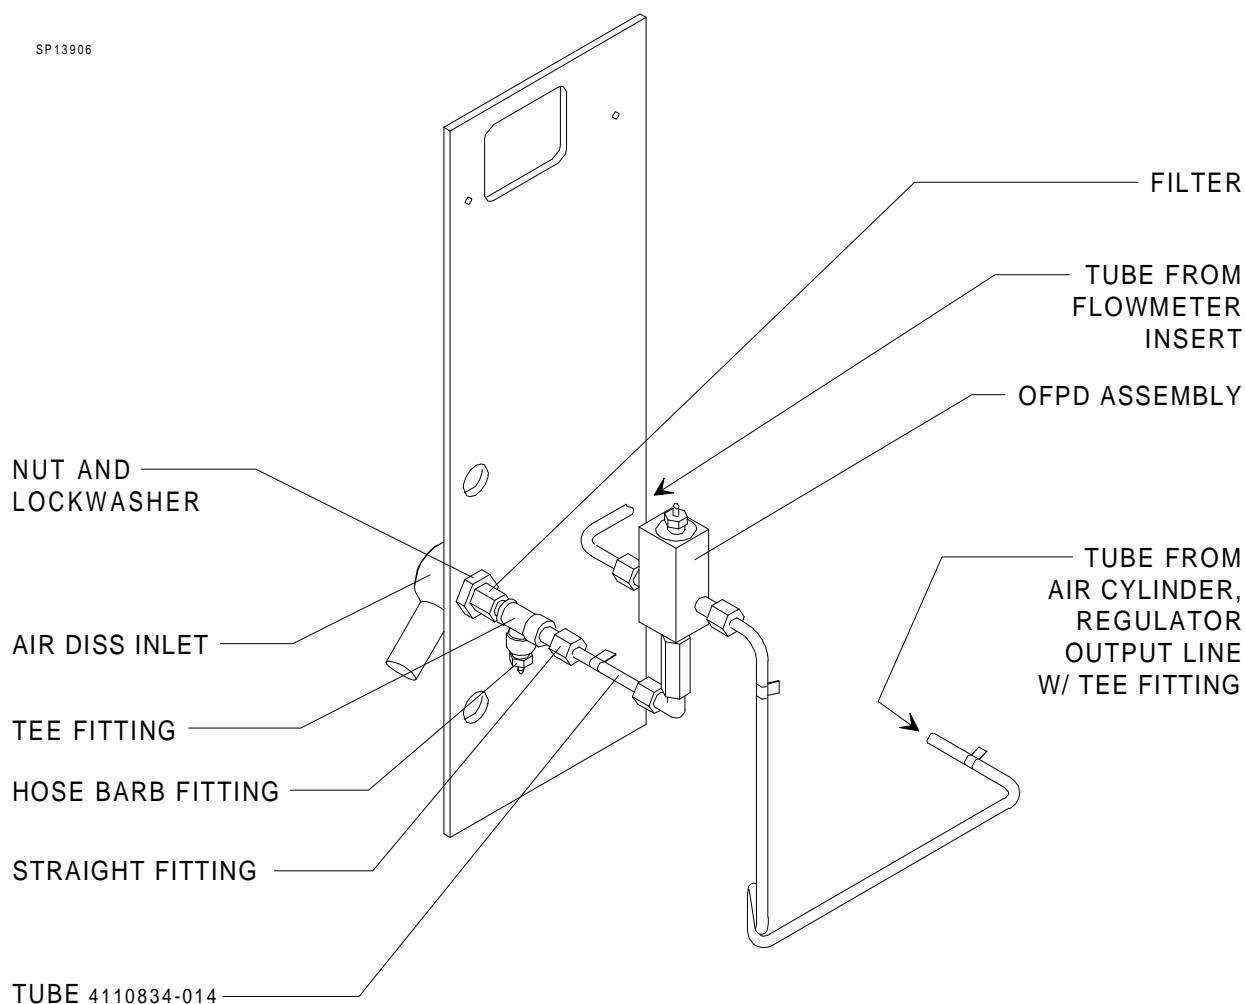
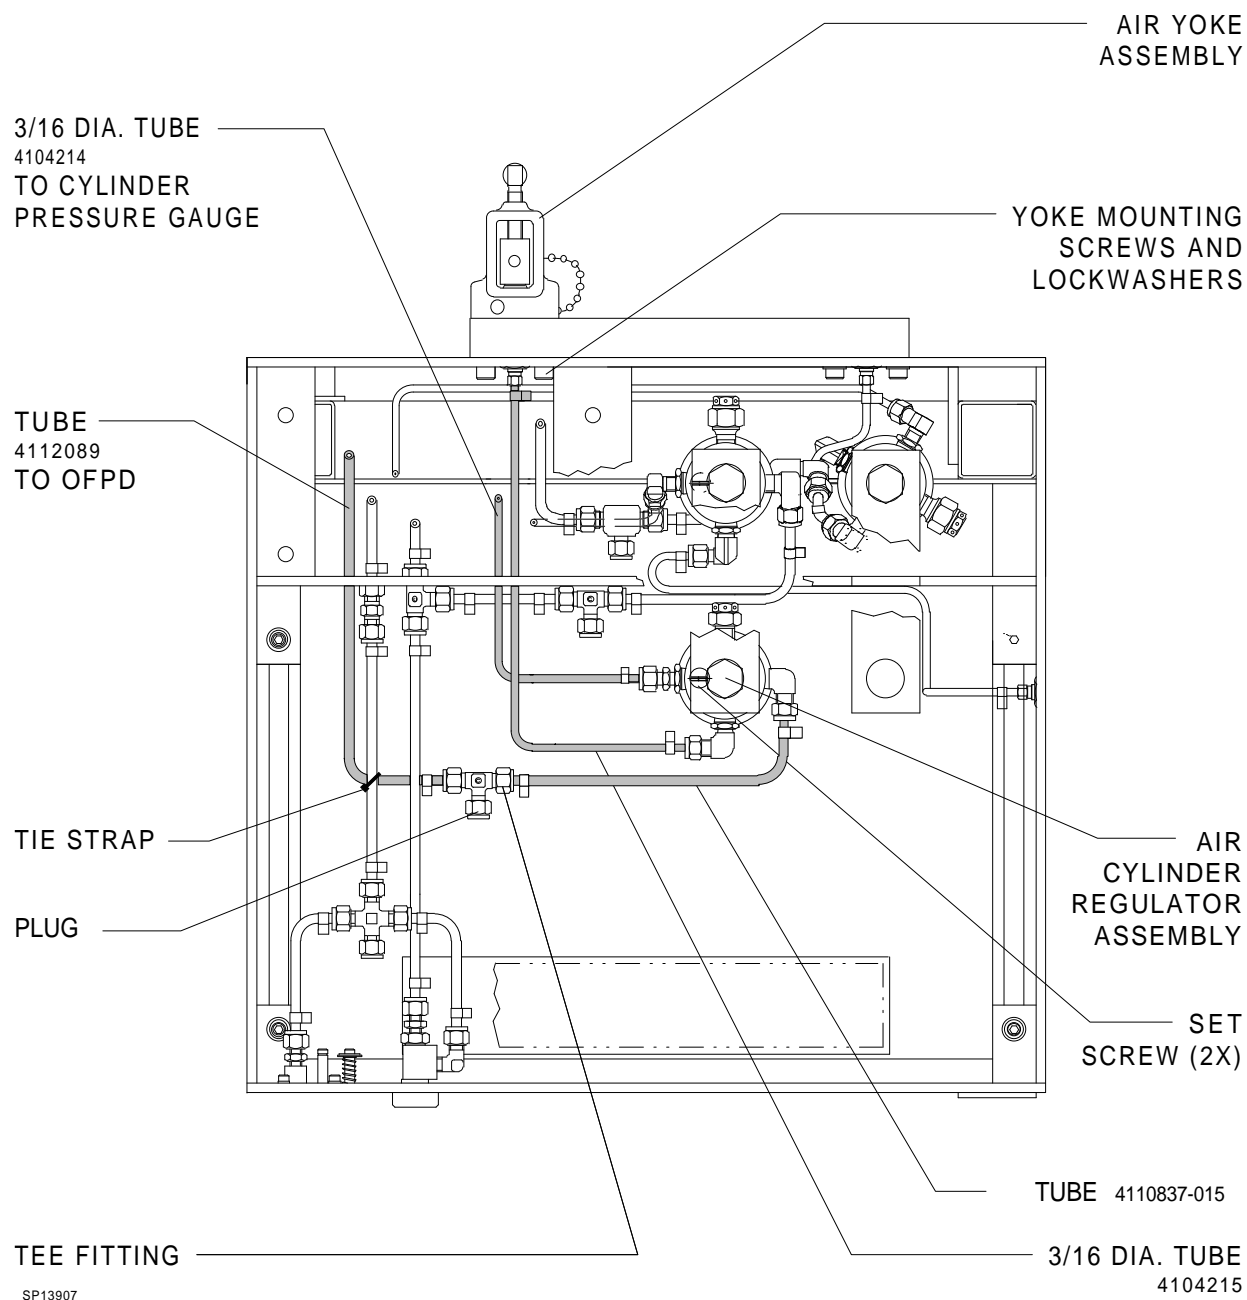

Figure 6: OFPD INSTALLATION
Figure 7: AIR YOKE, REGULATOR AND TUBING INSTALLATION
41. Install an Air DISS inlet assembly (P/N 4109412) as shown in Figure 6, with a $\frac{5}{8}$ in. int-t lock washer (P/N HW67001) and $\frac{5}{8}$ -18 nut (P/N HW52002). Orient the assembly at the same 70° angle as the other pipeline inlets.
43. Place a drop of red Loctite #271 on the threads and install the tee fitting (P/N 4102760) into the filter as shown in Figure 6.
44. Place a drop of red Loctite #271 on the threads and install a hose barb fitting (P/N 4111771) in the center port of the tee fitting as shown in Figure 6.
| <p>46. Install copper tube (P/N 4110834-014) between the straight fitting and the bottom elbow on the OFPD assembly. Install a yellow AIR label on the tube.</p> <p>47. Connect the copper tube from the Air flowmeter insert (previously installed) to the side port on the OFPD assembly. See Figure 6.</p> <p>48. Install the air cylinder regulator assembly (P/N 4104603) with two 10-32 x ½ in. set screws (P/N HW10001). Orient the regulator as shown in Figure 7 with the Inlet marking toward the front of the machine. Tighten the mounting screws to a torque of 55 in. lbs.</p> <p>49. Attach the copper tube (P/N 4110837-015) to the outlet port on the regulator as shown in Figure 7. Install a yellow AIR label at each end of this tube.</p> <p>50. Install a tee fitting (P/N 4108636) at the other end of this tube, and install a plug (P/N 4103072) in the center port of the tee fitting.</p> | <p>51. Connect the copper tube (P/N 4112089) between the remaining port on the tee fitting and the remaining side port on the OFPD. See Figures 6 and 7. Install a yellow AIR label at each end of this tube. Tie strap the tube to the O₂ line as shown in Figure 7.</p> <p>52. Install the Air yoke assembly (P/N 1101645) on the rear of the machine (remove the existing screw and nut from the frame rail) with two 5/16-24 x 1¾ in. socket head screws (P/N HW01058) and lock washers (P/N HW65005). Ensure that the yoke has a yellow AIR label.</p> <p>53. Connect the 3/16 in. dia. tube (P/N 4104215) between the Air regulator inlet and the yoke check valve. Install a yellow AIR label at each end of this tube.</p> <p>54. Connect the 3/16 in. dia. tube (P/N 4104214) between the side HP port on the regulator and the cylinder pressure gauge. See Figures 7 and 4. Install a yellow AIR label at each end of this tube.</p> |